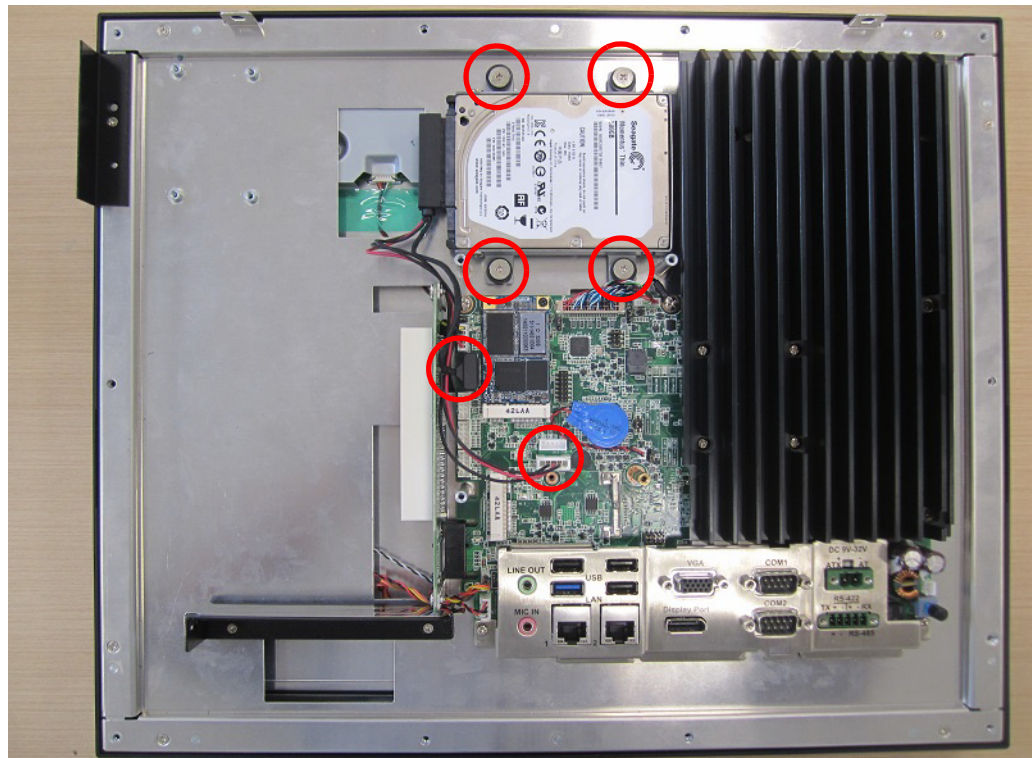

Figure 2.14
5. Replace the HDD bracket and secure in place. Connect the other end of the HDD data cable to the mainboard (see Fig. 2.14).